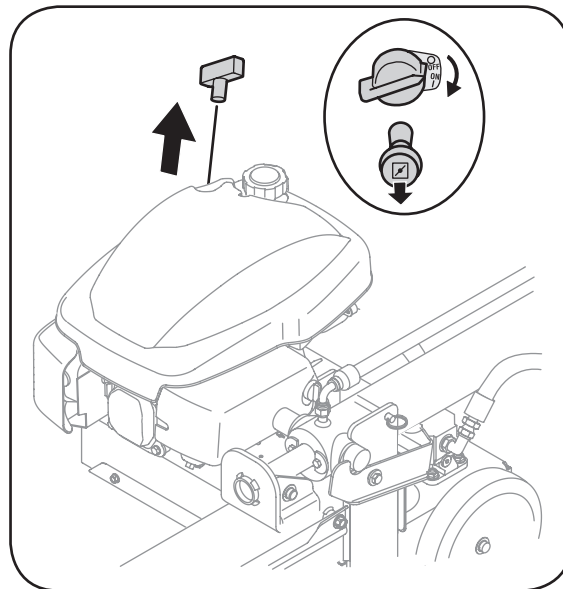

Figure 9-3: Starting the log splitter.
2. Pull out the choke knob located on the engine. See Figure 9-3 inset.
4. Pull the starter grip lightly until resistance is felt, then pull rapidly to overcome compression, prevent kickback and start engine. See Figure 9-3. If engine does not start after ten seconds of repeated pulls, wait a few minutes and repeat.